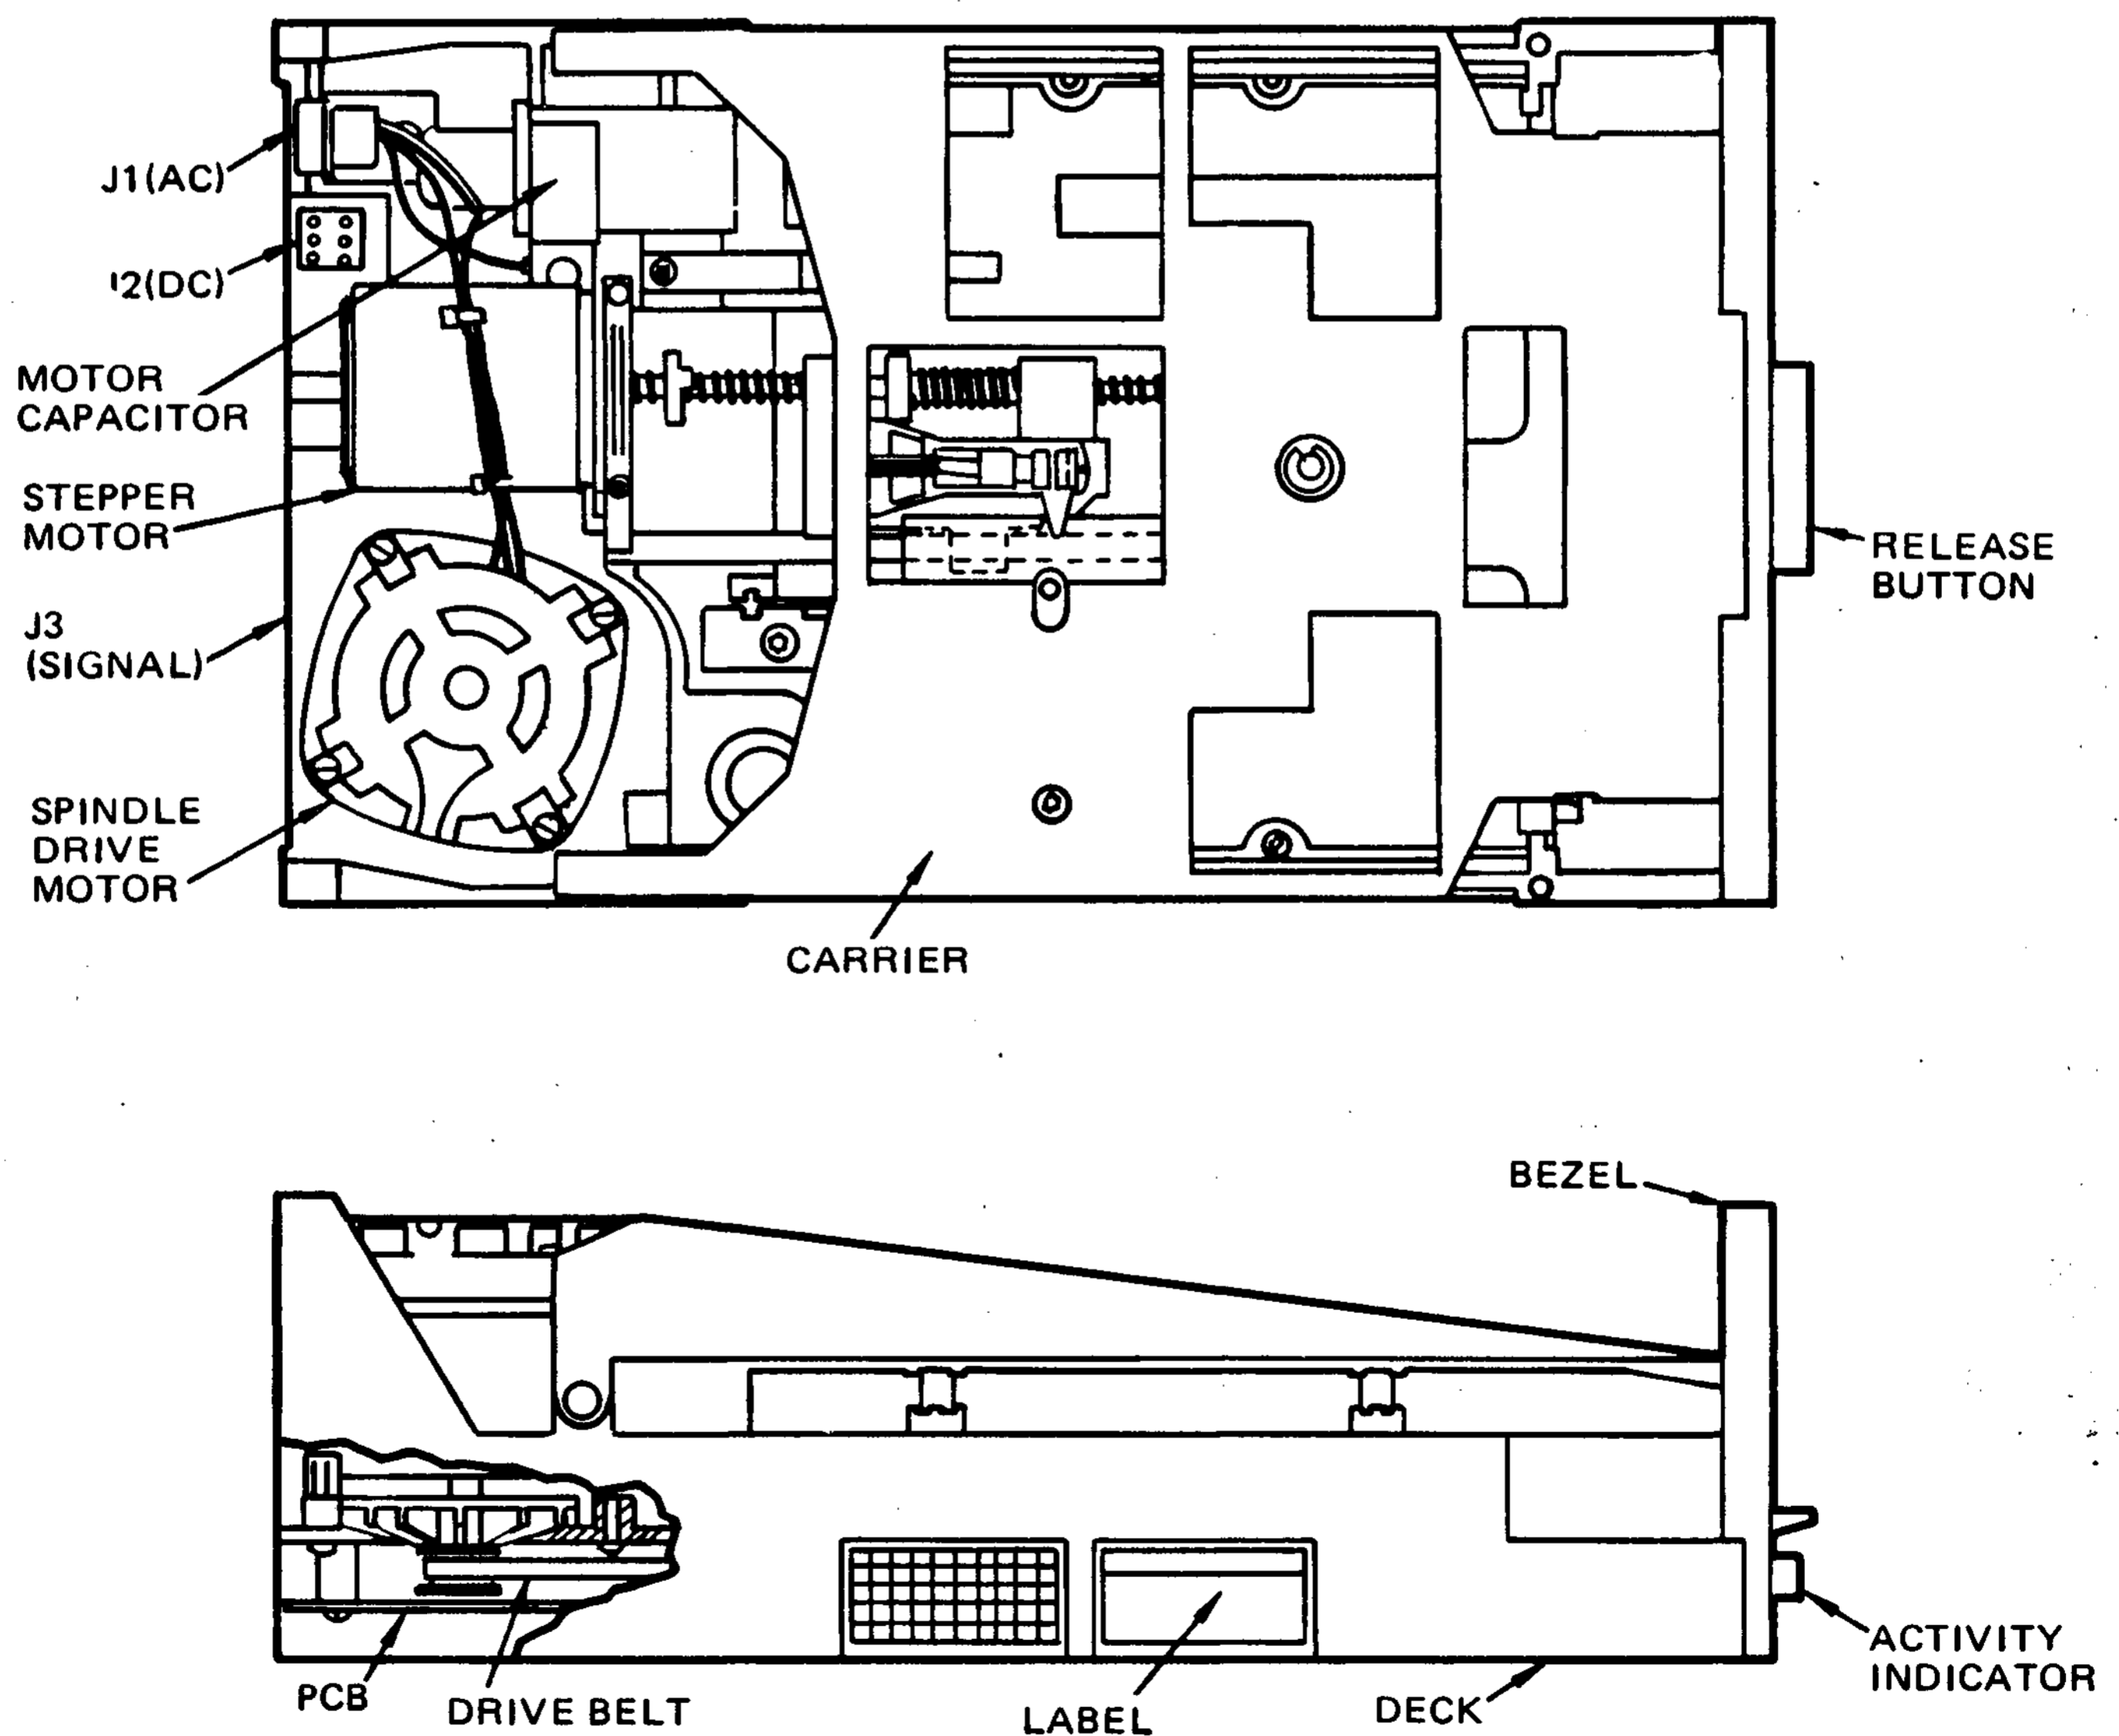
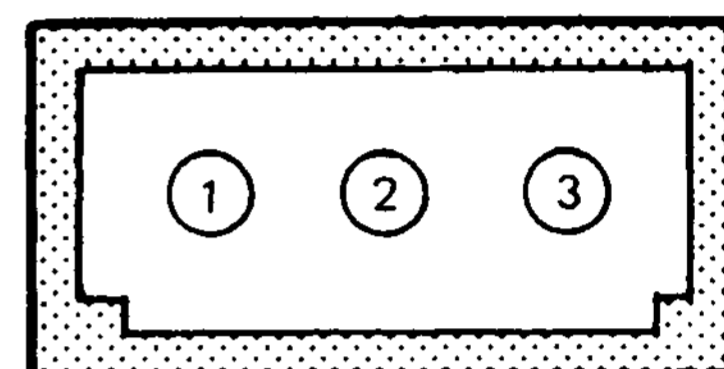
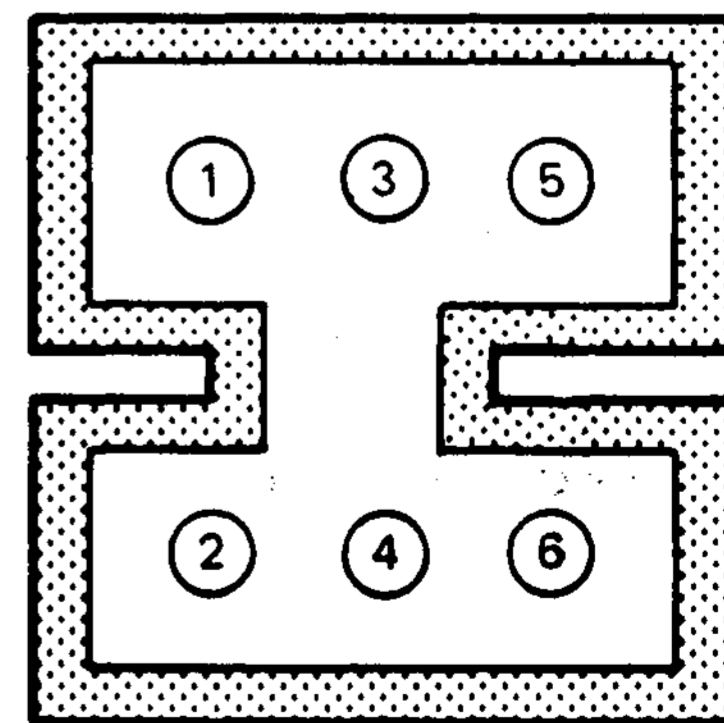

Figure 4-1. Principal Parts Location
Figure 4-2. AC Connector J1
Figure 4-3. DC Connector J2
The disk drive is designed for ease of operation. Most mechanical checks can be made, without having power applied, as follows (see Figure 4-1):
The cables are connected directly to disk drive connectors as shown in Figure 4-1, and are identified as follows:
AC power input connector J1 is mounted inside the frame, in front of the drive motor capacitor (see Figure 4-1). The 3-pin connector is AMP P/N 1-480305-0 using pin P/N 60620-1 or AMP P/N 1-480701-0 using pin P/N 350669-1 and pins (2) P/N 350705-1. Recommended mating connector P1, is AMP P/N 1-480303-0 or 1-480304-0, both using pin P/N 60619-1 or AMP P/N 1-480700-1 using pin P/N 350550-1. Figure 4-2 shows connector J1 as seen from the rear of drive.
DC power input connector J2 is mounted on the noncomponent side of the PCB, just below the drive motor capacitor and the stepper motor (see Figure 4-1). The 6-pin connector is AMP Mate-N-Lock P/N 1-380999-0 and is soldered directly to the PCB. Recommended mating connector P2, is AMP P/N 1-480270-0 using pin P/N 60619-1. Figure 4-3 shows connector J2, as seen from the rear of the disk drive.
Connector J3 is a 50-pin PCB edge-card connector, located at the rear of the disk drive (see Figure 4-1). The pins are numbered 1 through 50, with all even-numbered pins on the component side. A key slot is provided between pins 4 and 6 for connector keying. Recommended mating connectors for J3, are listed in Table 4-3.